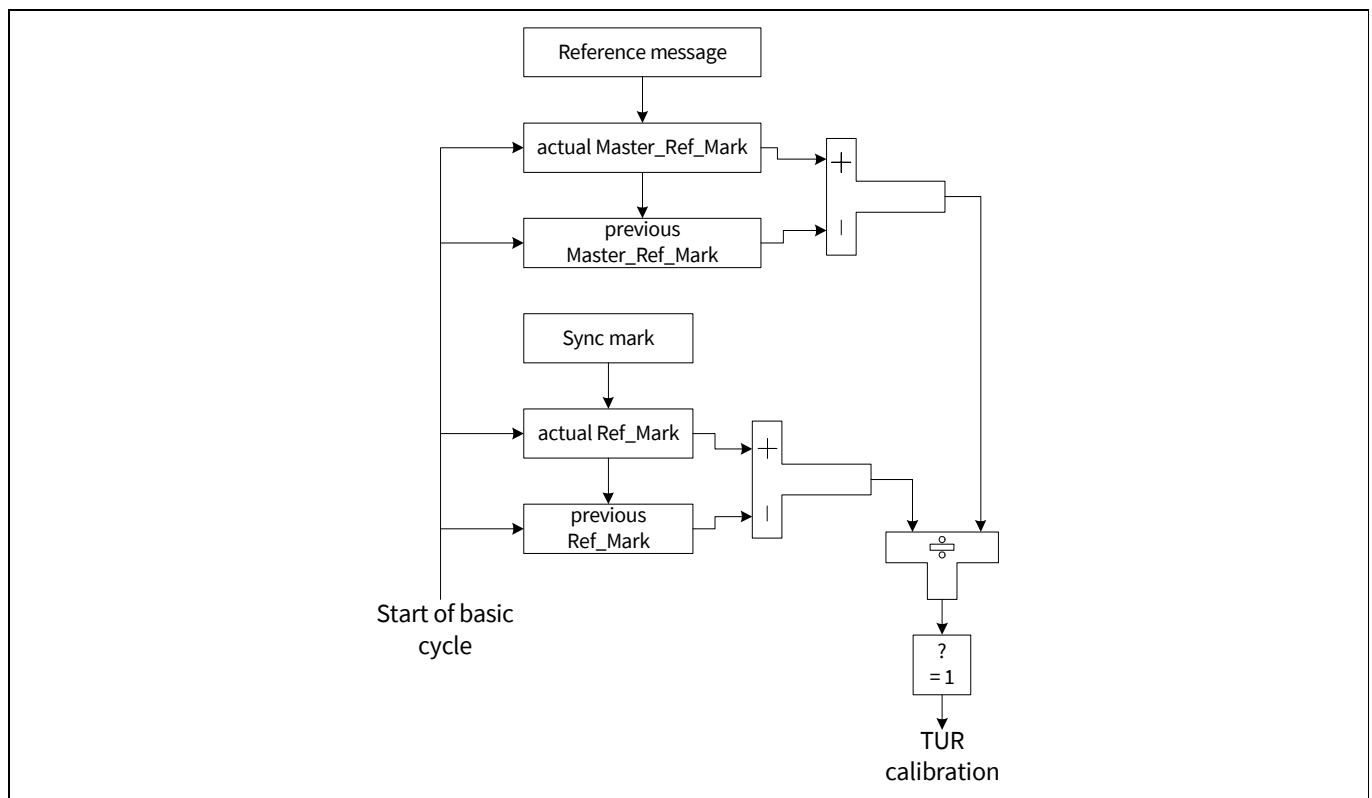

Figure 24-25. TTCAN level 0 and level 2 drift compensation
Figure 24-25 illustrates how in TTCAN Level 0 and Level 2 the receiving node compensates the drift between its own local clock and the time master's clock by comparing the length of a basic cycle in local time and in global time. If there is a difference between the two values, and the Disc_Bit in the reference message is not set, a new value for CANFDx_CHy_TURN.ANAV is calculated. If the synchronization deviation (SD) = $|NC - CANFDx\_CHy\_TURN.ANAV| \leq SDL$, the new value for CANFDx_CHy_TURN.ANAV takes effect. Otherwise, the automatic drift compensation is suspended.